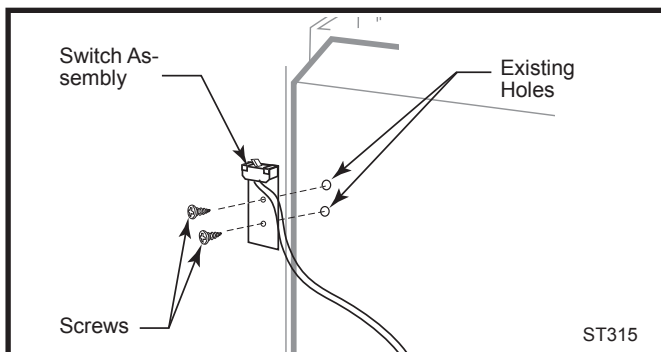

Fig. 9 Attach switch assembly to rear shroud.
1. Attach switch assembly to left rear side of stove shroud using two screws and existing holes in shroud. (Fig. 9)